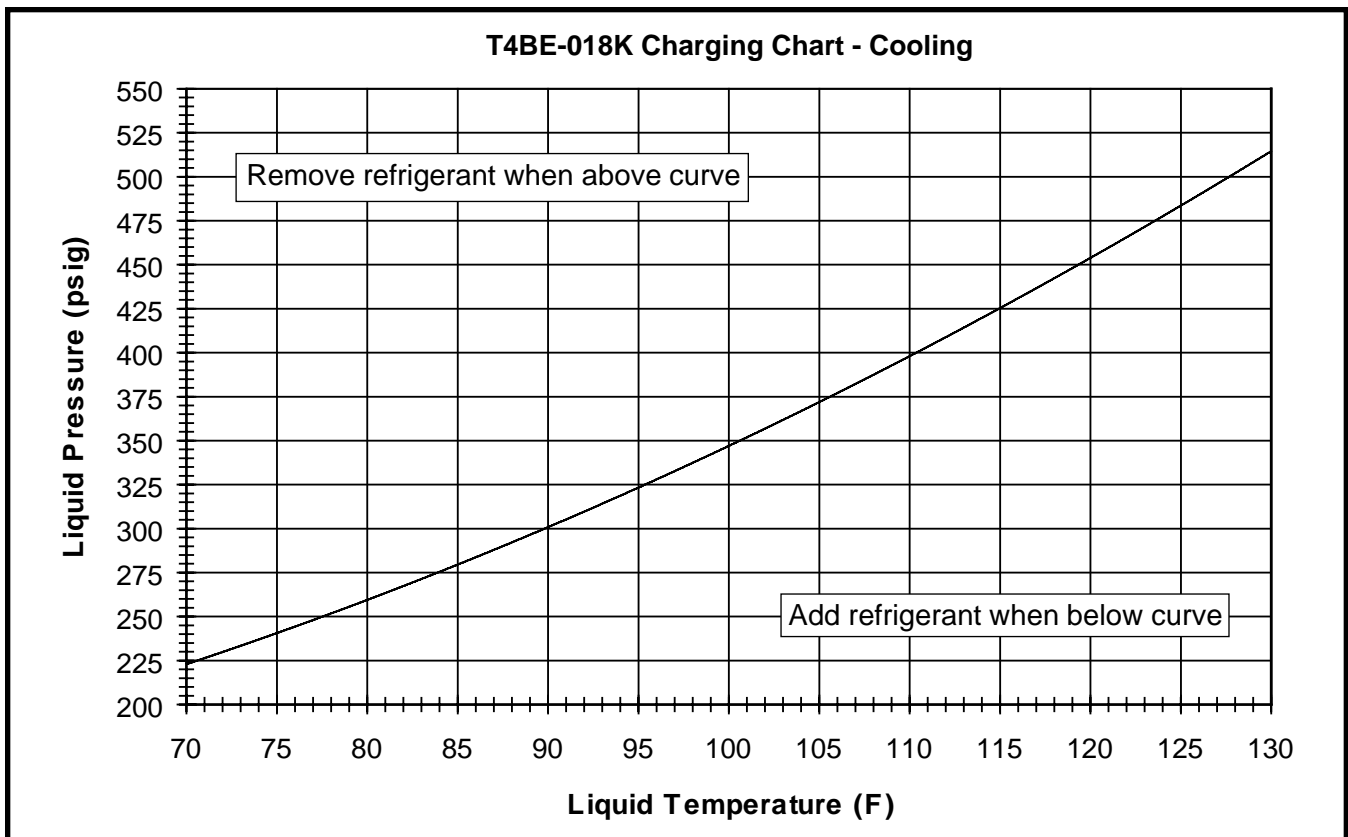

Figure 6. Charging Chart for T4BE-018 Series (1.5 Ton Units) - TXV Matches
- Cooling mode charging charts are applicable only to matched assemblies of NORDYNE equipment and listed airflows for the indoor coil. T4BE outdoor units with non-AHRI listed indoor coils are not recommended and deviations from rated airflows or non-listed combinations may require modification to the expansion device and refrigerant charging procedures for proper and efficient system operation. Refer to Figures 6 - 12 (pages 11 - 14) and Tables 4 - 9 (pages 16 & 17) for correct system charging.
3. Determine the required liquid refrigerant pressure from Figures 6 - 12 (pages 11 - 14).
- Charging charts are valid for a variety of indoor, return air conditions and are most influenced by the outdoor ambient temperature, outdoor fan operation and the unit operating voltage. Before using these charts, make sure the unit is in a stable operating mode. As shown in the charging charts (Figures 6 - 12, pages 11 - 14), the ideal system sub-cooling can vary over the range of operation. Reference the charts to determine the ideal amount of sub-cooling for a given liquid pressure. Units charged to other values will not perform at the rated unit efficiency (EER) or rated Coefficient of Performance (COP) in heating mode.